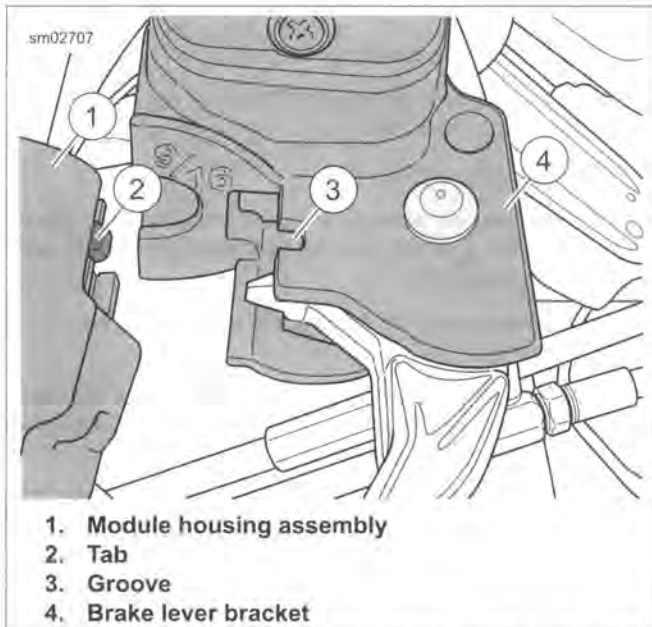

Figure 2-53. Attach Master Cylinder to Right Handlebar Switches
13. Install **new** retaining ring (18) in pivot pin groove. Verify that retaining ring is completely seated in groove.
14. See Figure 2-53. Position the brake lever/master cylinder assembly inboard of the module housing assembly. Engage the tab (2) on the module housing assembly (1) in the groove (3) at the top of the brake lever bracket (4).